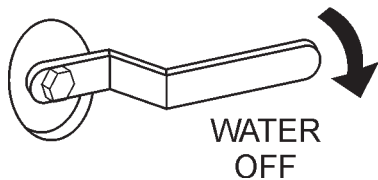

Figure 17. Water Sprinkler Valve (OFF)
2. If the water valve is open, close it (Figure 17)